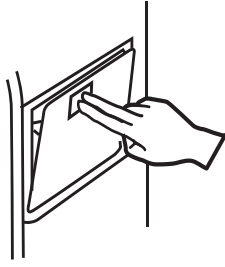

Fig.2-8
- You can place drinks and other foods in the home bar (Fig.2-8).